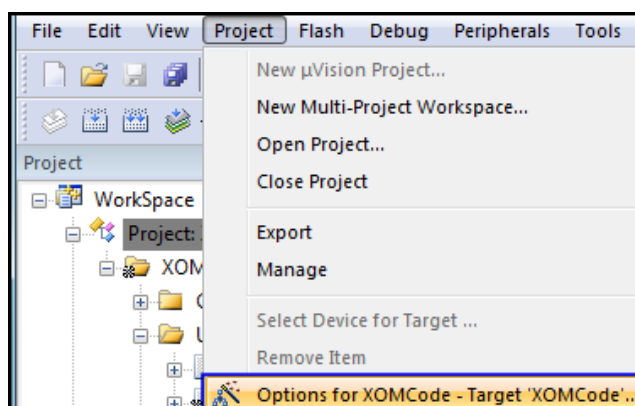

Figure 3-1 Open Keil® MDK Options
1. Open Keil® MDK and select “**Project->Options for Target**” to enter “Options” page, as shown in Figure 3-1.